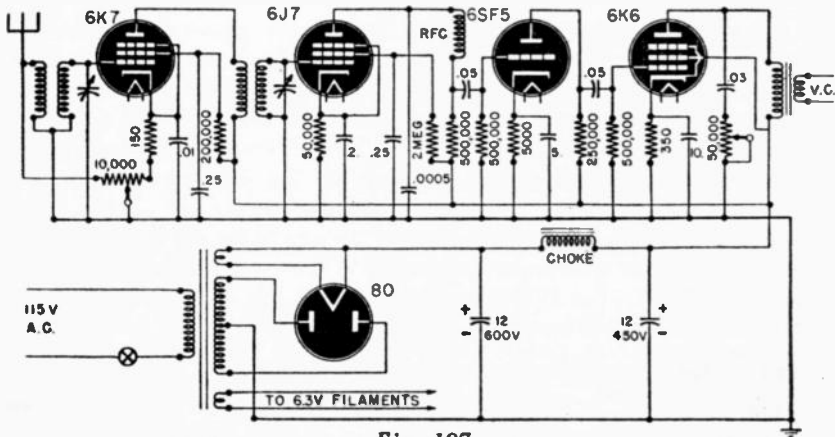

Fig. 107
A. The diagram is shown in Fig. 107. A sensitivity control in the form of a 10,000-ohm potentiometer is used in the first stage. This set, while sufficiently sensitive for most purposes, should give better fidelity than the usual superheterodyne, if built with high-class components.